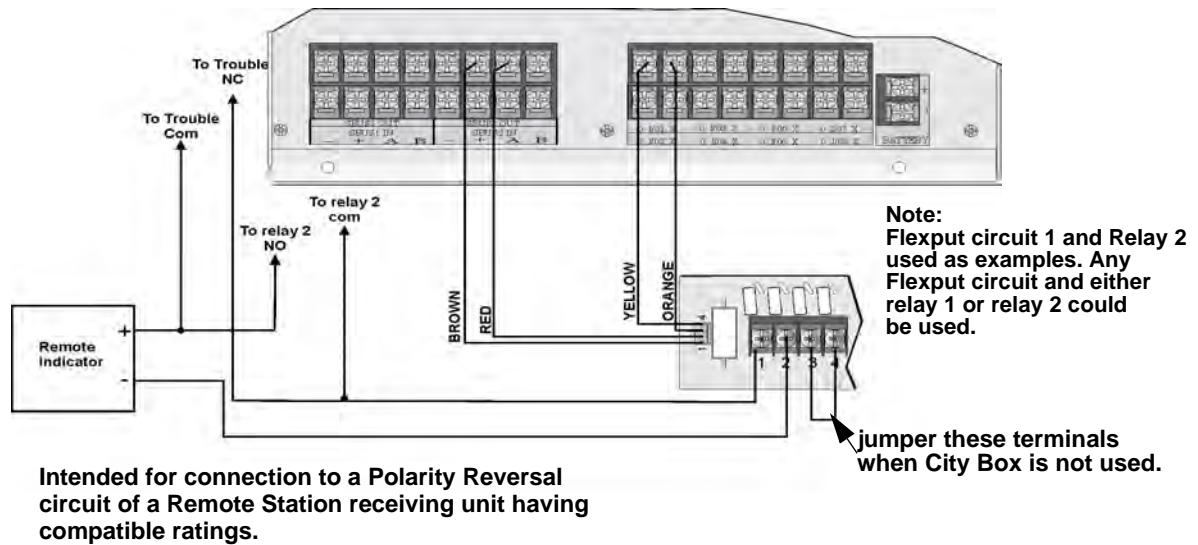

Figure 4.49 Polarity Reversal Connection Using the 5220 Module
2. Wire the 5220 to the control panel using the four-wire pigtail provided as shown in Figure 4.49. This diagram also shows how to connect the 5220 to the remote indicator. Do not install an EOL resistor in the terminals of the Flexput circuit used for this application.